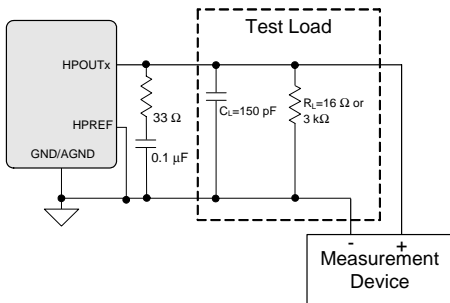
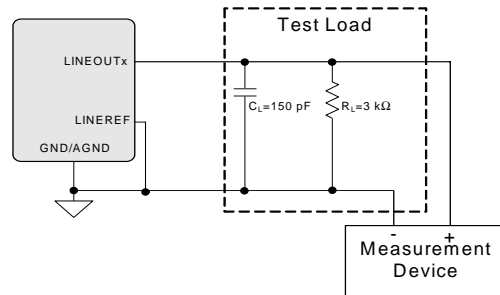

Figure 3. HP Output Test Configuration
Figure 4. Line Output Test Configuration
Test conditions (unless otherwise specified): Connections to the CS42L55 are shown in the “Typical Connection Diagram” on page 10; Input test signal is a full-scale 997 Hz sine wave; All Supplies = VA, VCP Mode; GND = AGND = 0 V; $T_A = +25^\circ\text{C}$; Measurement bandwidth is 20 Hz to 20 kHz; Sample Frequency = 48 kHz; Test load $R_L = 3\text{ k}\Omega$, $C_L = 150\text{ pF}$ for a Line Load, and test load $R_L = 16\ \Omega$, $C_L = 150\text{ pF}$ for a headphone load. (See Figure 3 on page 15).
Test conditions (unless otherwise specified): Connections to the CS42L55 are shown in the “Typical Connection Diagram” on page 10; Input test signal is a full-scale 997 Hz sine wave; All Supplies = VA, VCP Mode; GND = AGND = 0 V; $T_A = +25\text{ }^\circ\text{C}$; Measurement bandwidth is 20 Hz to 20 kHz; Sample Frequency = 48 kHz; Test load $R_L = 3\text{ k}\Omega$, $C_L = 150\text{ pF}$ (see Figure 3 on page 15).
- See Figure 3 and Figure 4 on page 15. Refer to “Parameter Definitions” on page 71.